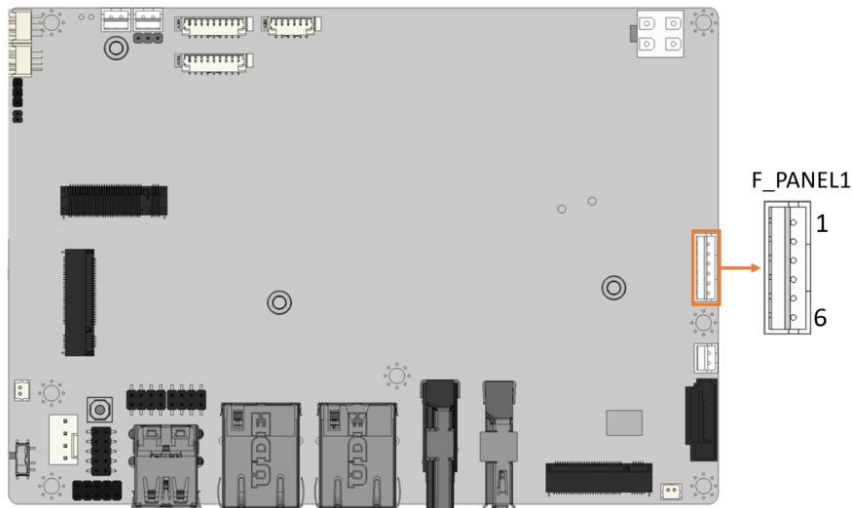

Figure 3-9: Power LED & HDD LED Connector Location
- CN Location:** See **Figure 3-9**